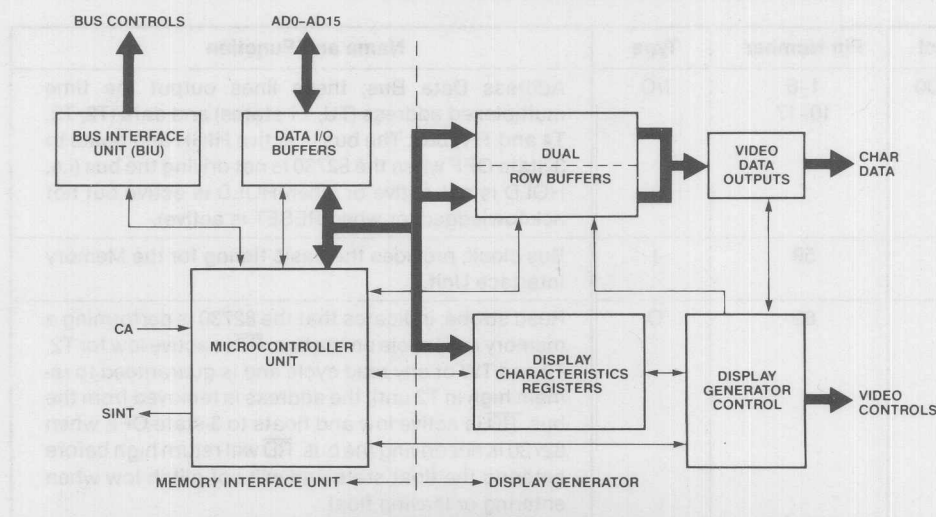

Figure 1. 82730 Block Diagram
Figure 1 shows a block diagram of the 82730. The chip is divided into two main sections—The Memory Interface Unit (MIU) and the Display Generator (DG). The MIU provides the communication between the 82730 and system processor and memory, while the DG acts on the display data and carries out the display operation.